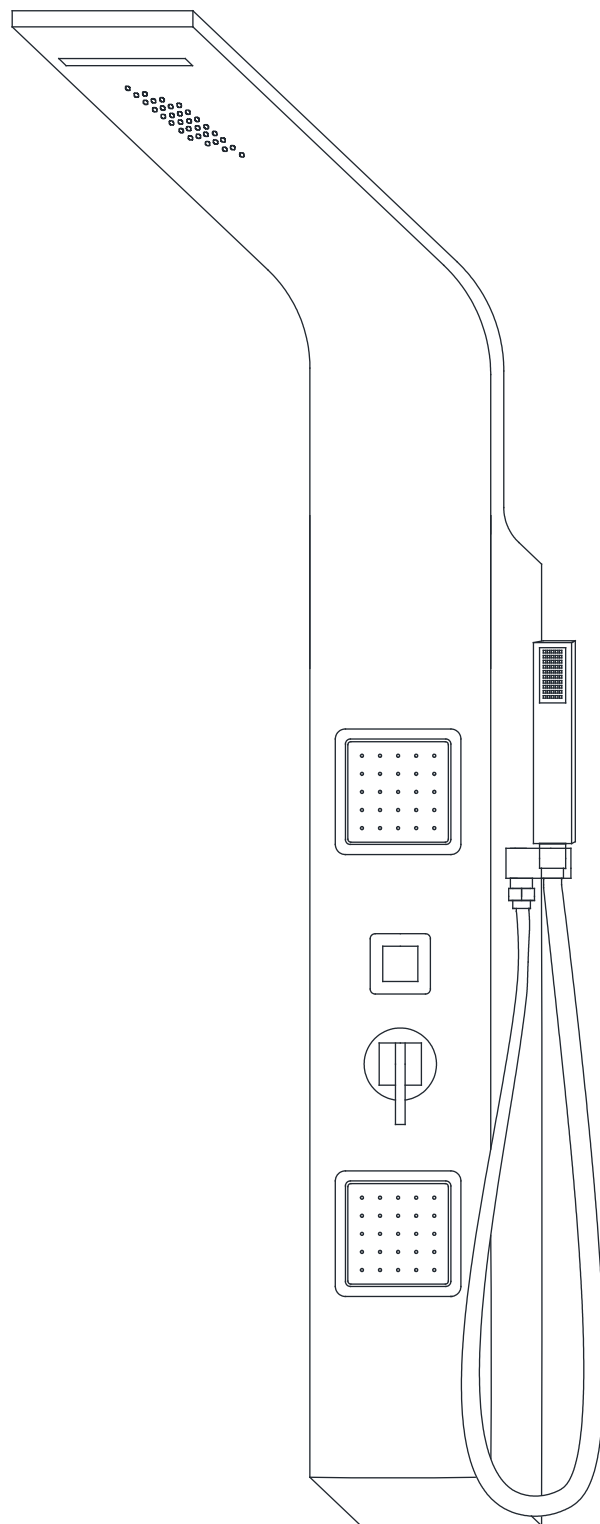

Fig 6
6. Use an assistant to hold the **Shower Panel Body (#01)**. Attach the flexible supply lines in the rear of the unit to the copper stub-outs using thread seal tape. Do not overtighten. Hang the unit on the installed **Support Brackets (#02)**. Turn on the water supply and test the unit for leaks and functionality. **(Fig 6)**